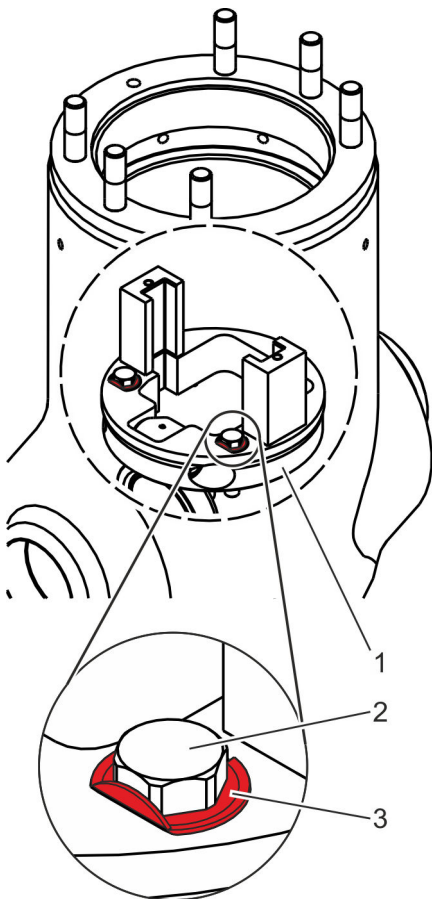

Fig. 51: Phantom view of the body
2. ➤ Bend the washers (Fig. 51/3) straight.
Unscrew the fastening screws (Fig. 51/2) and remove them together with the washers (Fig. 51/3) from the retaining ring (Fig. 51/1).